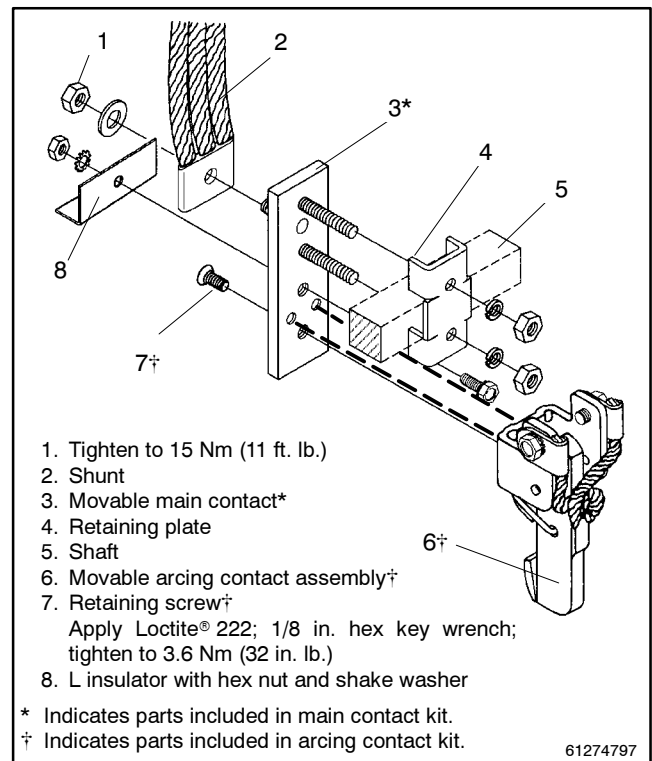

Figure 10-4 Movable Contacts
The movable arcing and main contacts are mounted on the shaft assembly. The main contacts are screwed to the back side of the two finger blocks and to the shunts. The arcing contact assemblies, which extend from the ends of the main contacts, are the normal replacement parts. They *make* first and *break* last to protect the main contacts. See Figure 10-4.
1. Install the new movable main contacts. See Figure 10-4. Place the new movable main contact behind the shaft and install the retaining plate. Secure the parts with two hex nuts with lock washers. Install the L insulator behind the main contact and secure it with bolt and flat washer (front) and lock washer and hex nut (back). Use a 7/16 in. nutdriver and socket wrench to tighten the hardware.